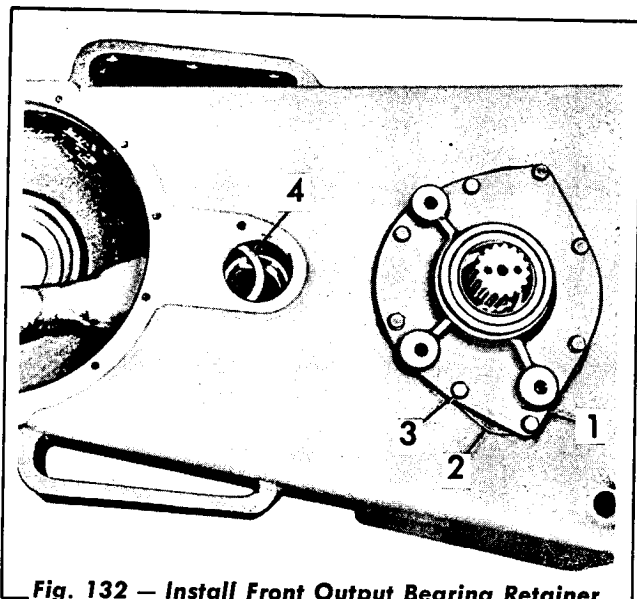

Fig. 132 — Install Front Output Bearing Retainer, and Transfer Idler Gear Spacer
3. Install the front output bearing retainer (Fig. 132) and the gasket. Secure the retainer with the capscrews and lockwashers. Install the transfer idler gear spacer in the housing.